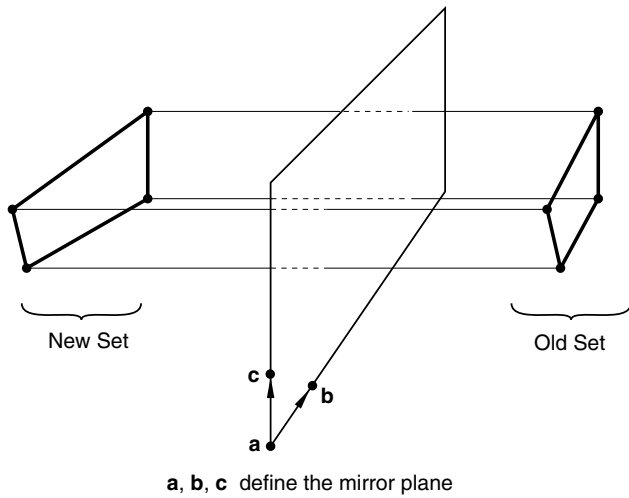

Figure 3: *NCOPY, REFLECT=MIRROR option.
1. X -coordinate of the first point defining the reflection plane (point a in Figure 3).
4. X -coordinate of the second point defining the reflection plane (point b in Figure 3).
1. X -coordinate of the third point defining the reflection plane (point c in Figure 3).